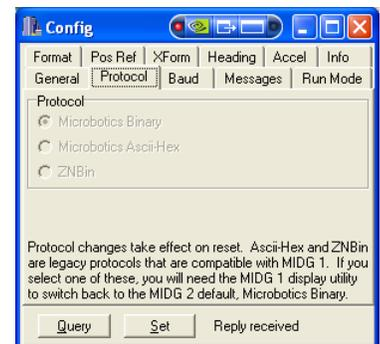

Figure 19. Protocol Tab
6.3 Protocol - The "Protocol" tab (Figure 19) is completely grayed out. Though there are three (3) radio buttons, there are no settings which can be changed here. The "Microbotics Binary" is the only protocol currently supported by Microbotics, Inc.